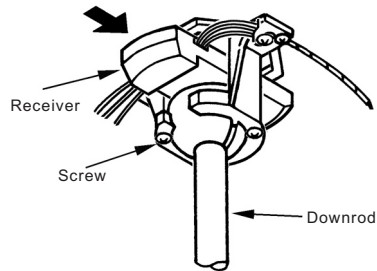

Fig.15
Step 1: Insert the receiver unit into the hanger bracket with the flat side of the receiver facing the ceiling. (Fig.15)